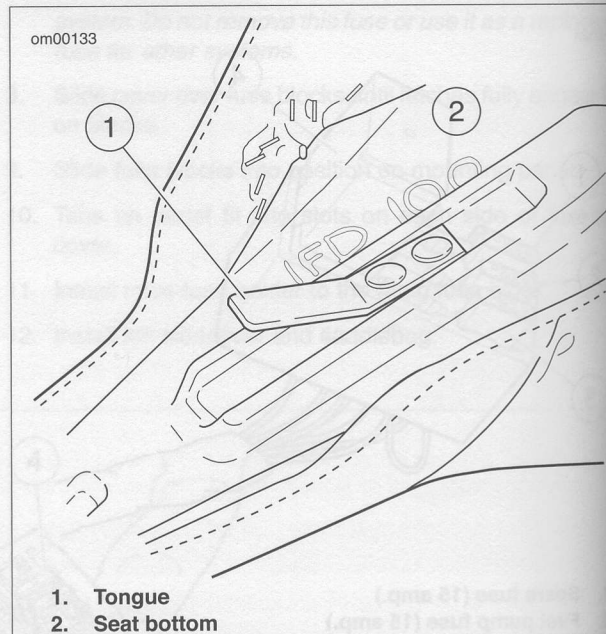

Figure 79. Seat Tongue
4. See Figure 79. Push seat rearward to free tongue (1) at front of seat from slot in frame backbone.
2. See Figure 79. Firmly push front of seat downward and rearward until tongue engages slot in frame backbone.
7. See Figure 79. While pushing seat forward, raise rear of seat until bracket clears top of Tour-Pak. Push seat rearward slightly to free tongue at front of seat from slot in frame backbone.
5. See Figure 79. Firmly push front of seat downward and rearward until tongue disengages slot in frame backbone.
2. See Figure 79. Firmly push front of seat downward and forward until tongue engages slot in frame backbone.